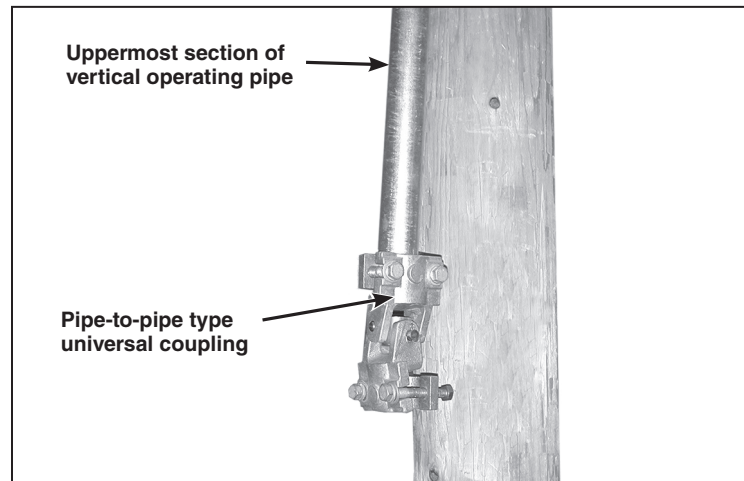

Figure 16. Attach the pipe-to-pipe type universal coupling to the lower end of the vertical operating pipe.
STEP 14. Attach a pipe-to-pipe type universal coupling to the lower end of the uppermost section of vertical operating pipe. See Figure 16. Back the piercing set screw out of the body of the pipe coupling before tightening the coupling clamp bolts.